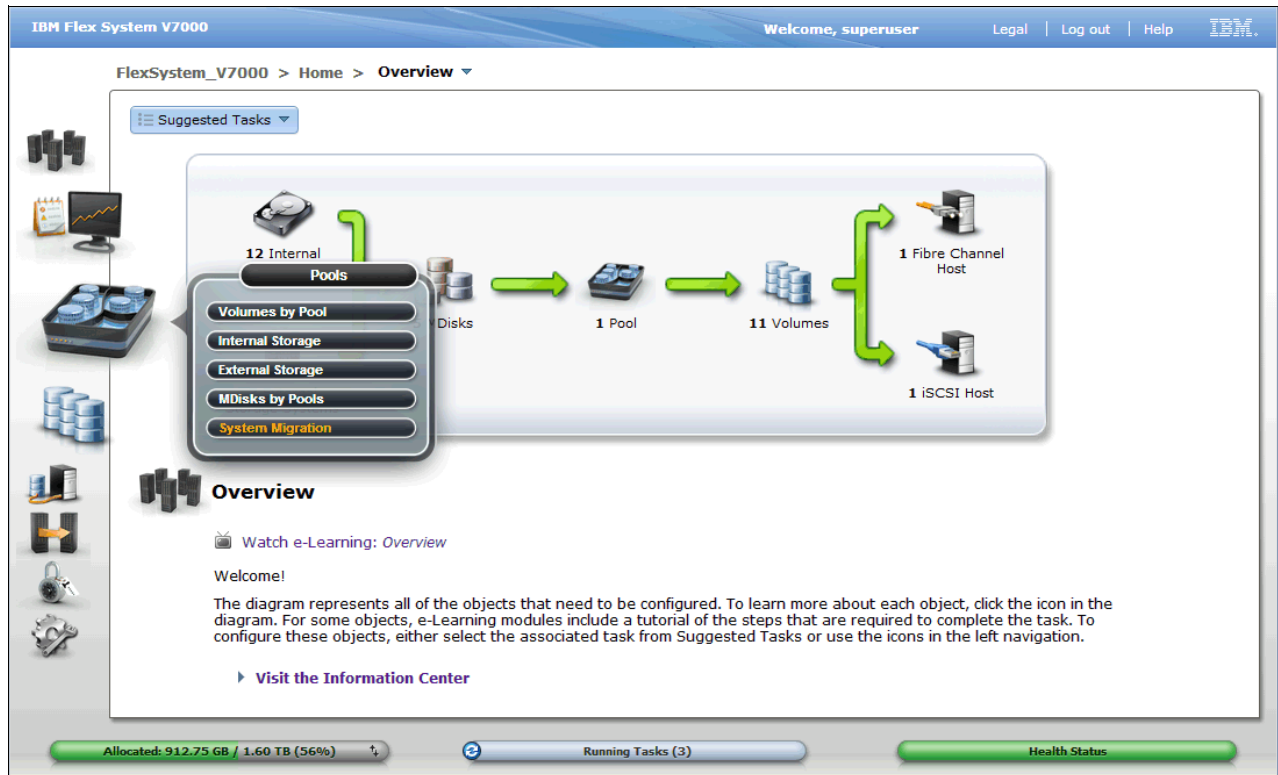

Figure 7-8 Migrate Storage from Pools menu System Migration option
- Method 2: Click the **Pools** icon and click **System Migration** as shown in Figure 7-8.